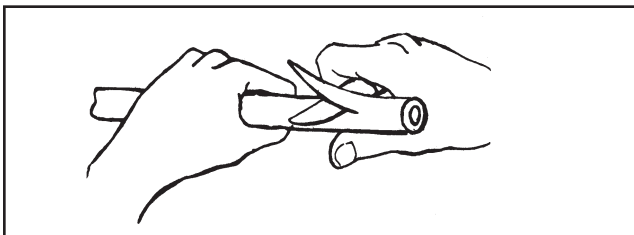
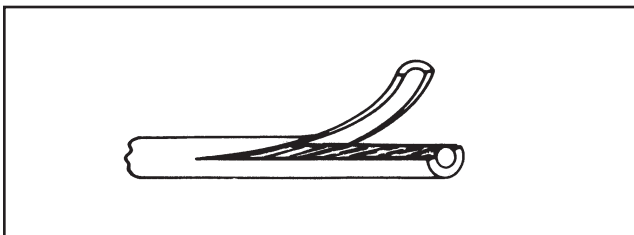

Figure 1
Figure 2
- a) One way to remove insulation is to pencil or whittle it (*Figure 1*). Another method is to skin the insulation back from the cut end of the conductor and then cut outward (*Figure 2*).